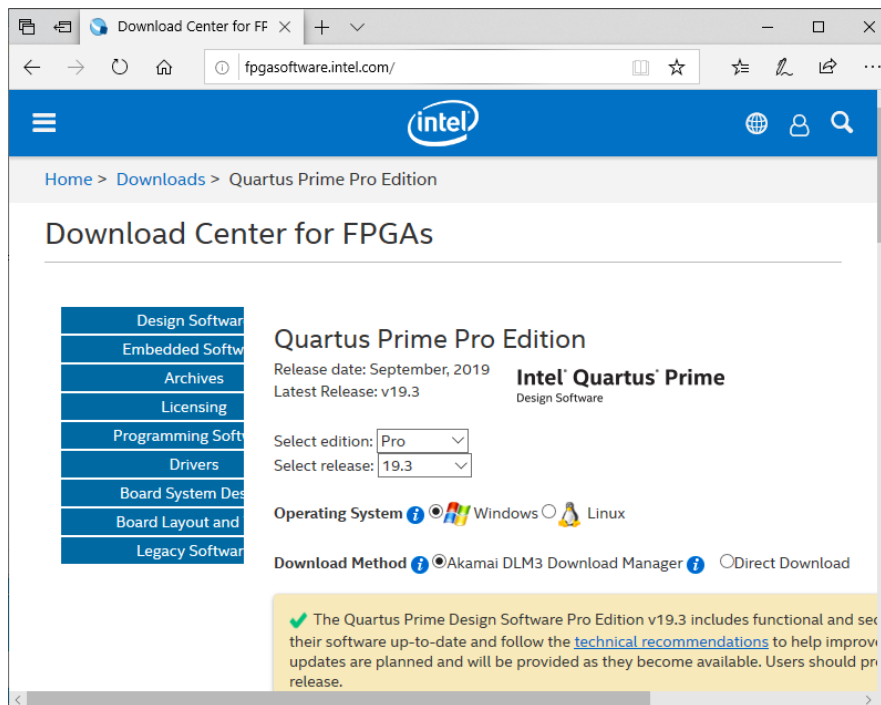

Figure 4-1 Download Center for FPGAs
1. The Quartus Prime Programmer is available on <http://fpgasoftware.intel.com/> as shown in **Figure 4-1**.